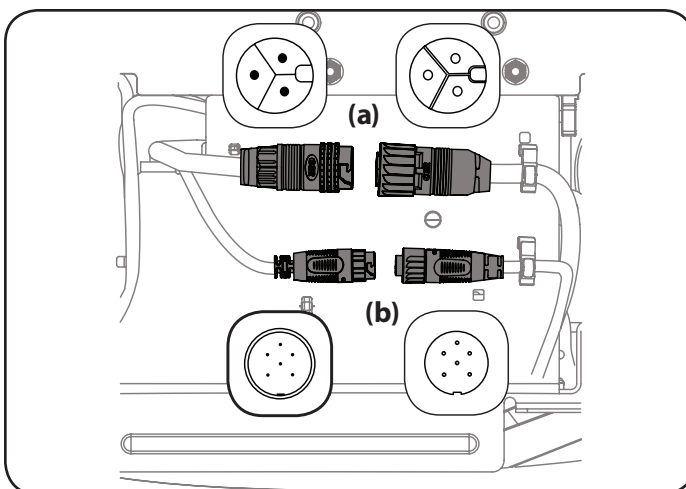
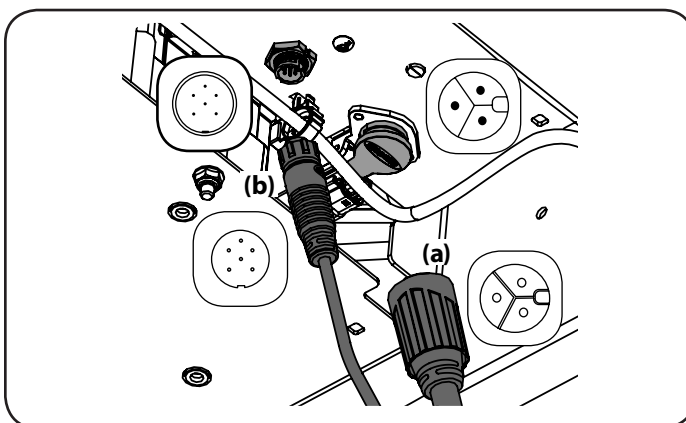

Figure 19
Figure 20
Note: Your mower may have one of two different deck motor connector setups. If your mower has horizontally positioned connectors, see Figure 19. If your mower has vertically positioned connectors, see Figure 20.
- Reconnect the deck motors on the underside of the tractor. Always connect the larger connector first and then the smaller connector. See Figure 19.